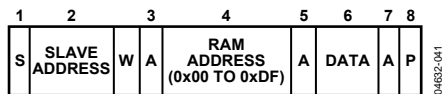

Figure 39. Single Byte Write to RAM
- To write a single byte of data to RAM. In this case, the command byte is the RAM addresses from 0x00 to 0xDF and the only data byte is the actual data, as shown in Figure 39.